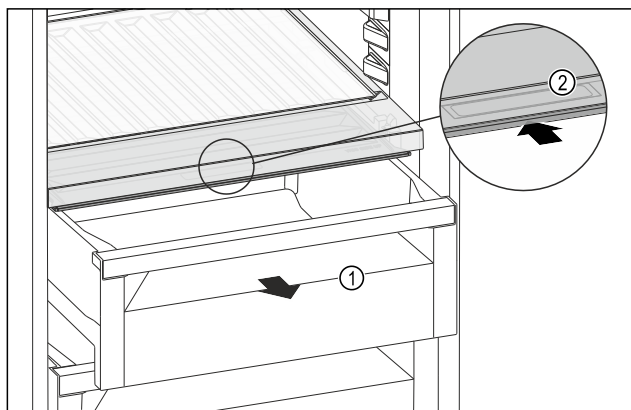

Fig. 215
- Pull out the drawer Fig. 215 (1).
- Grasp the recessed grip Fig. 215 (2) on the compartment lid and push the compartment lid backwards at the same time.